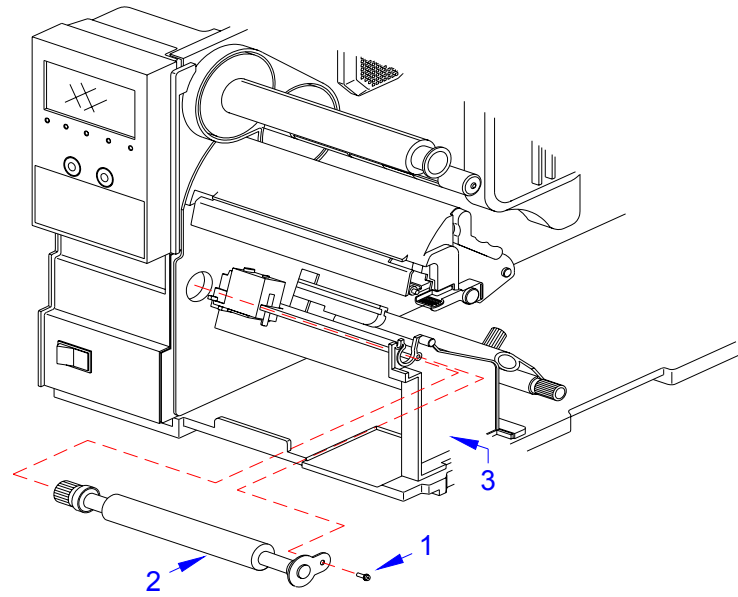

Figure 6-2, Platen Roller Replacement
- 3 Remove one screw (1, Figure 6-2) securing platen roller assembly (2) to printer frame (3).
- 4 Withdraw worn platen roller assembly (2) from within the printer and insert its replacement.
- 5 Secure replacement platen roller assembly (2) to printer frame (3) using one screw (1).